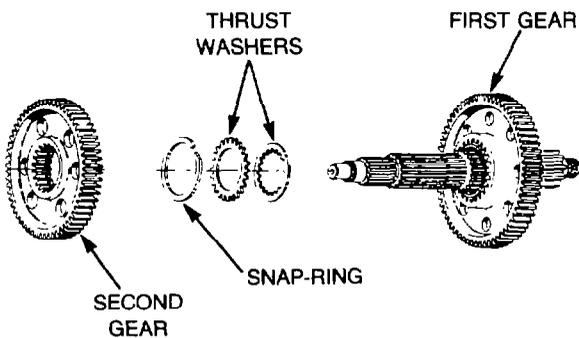

Figure 176 — Installing Second Gear
- f. Lubricate the second gear thrust washers with transmission oil, then assemble the thrust washers and snap-ring into the third/fourth gear, ensuring that the externally splined thrust washer is nearest the snap-ring. Position the gear and thrust washer assembly on the mainshaft with the snap-ring or ground hub side of the gear toward the first gear (see Fig. 176).